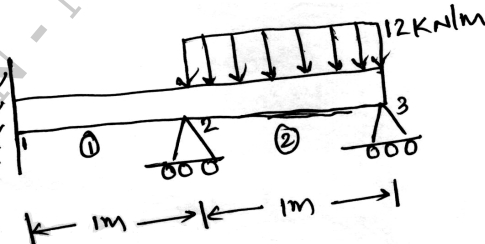

Fig Q5
- 5 For the beam and loading shown in Fig Q5, determine mine the slopes at 2 and 3.